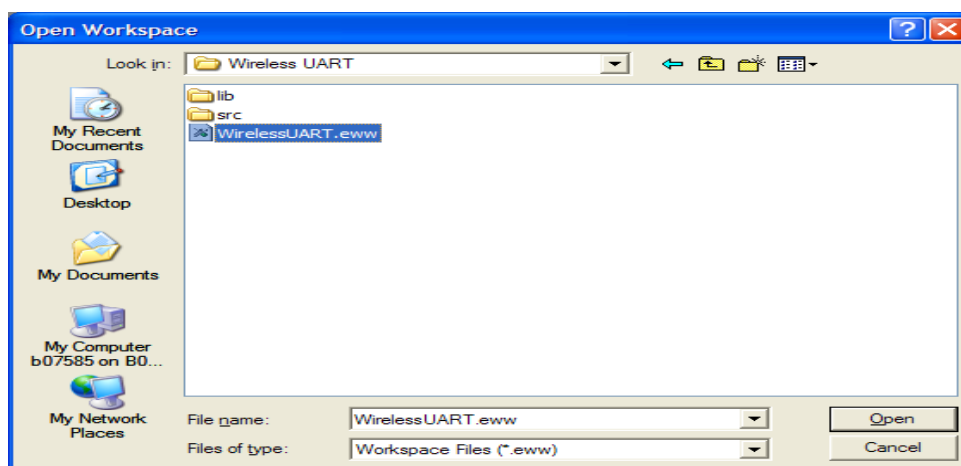

Figure 2-2. Opening Wireless UART Work Space
1. Using the IAR Embedded Workbench, open the Wireless UART work space (Wireless UART.eww) as shown in Figure 2-2.